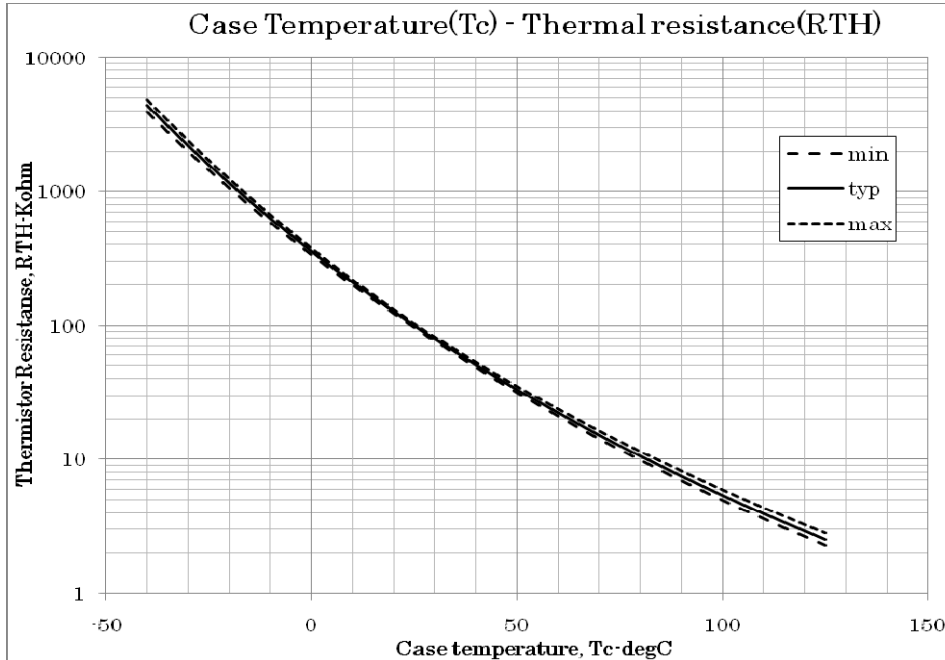
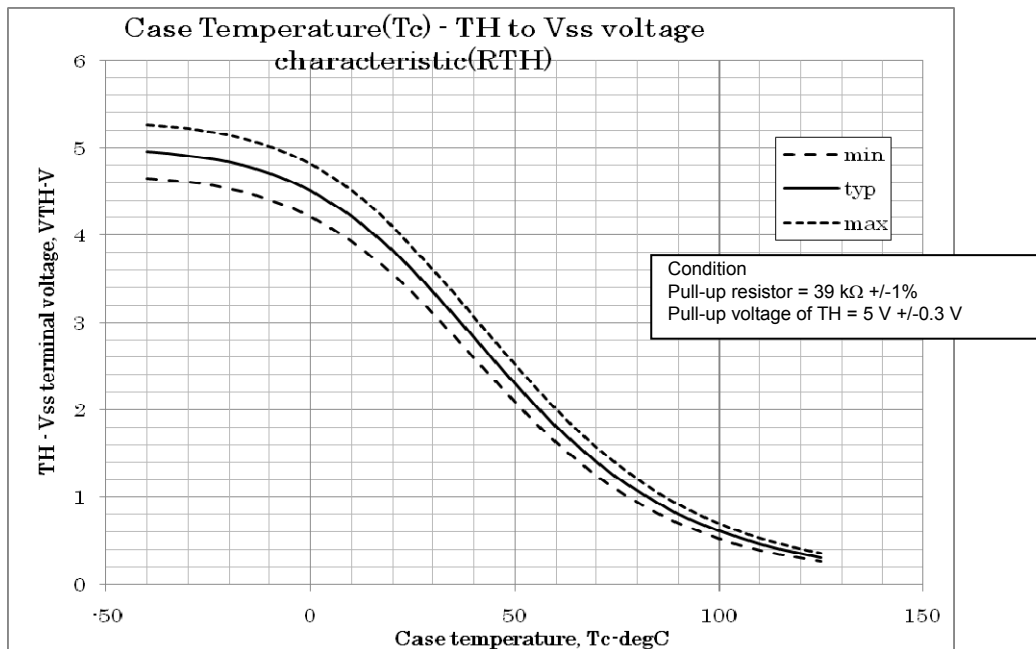

Fig.11 Variation of thermistor resistance with temperature
Fig.12 Variation of temperature sense voltage with thermistor temperature
- Inside the IPM, a thermistor used as the temperature monitor for internal substrate is connected between VSS terminal and TH terminal, therefore, an external pull up resistor connected between the TH terminal and an external power supply should be used. The temperature monitor example application is as follows, please refer the Fig.11, and Fig.12 below.